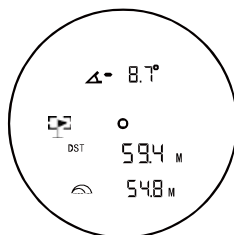

Figure 4
**Flagpole lock.** In the slope mode, press and hold the POWER/MEASURE button, then move the device slightly left and right until the distance to the flagpole is locked and displayed on the LCD (Fig. 4). After locking a flagpole, the device will vibrate.